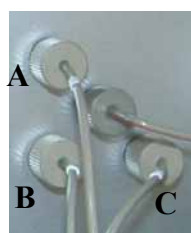

Fig. 9: Solvent lines connected to the proportioning valve
- The solvent lines are connected to the proportioning valve(s) at the factory (→ Fig. 9).